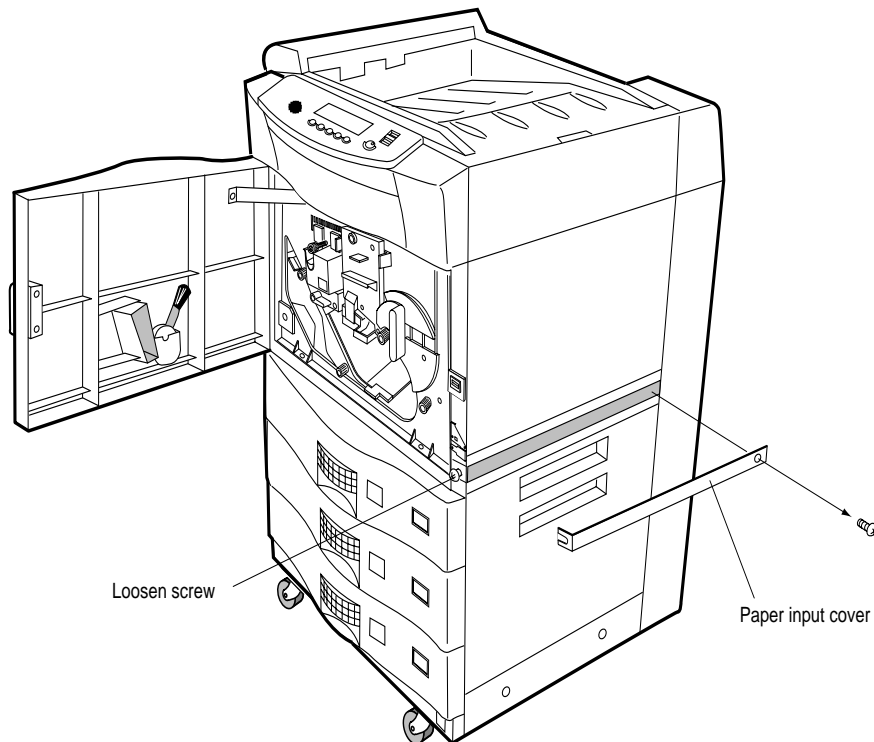

Figure 4-4 Removing Paper Input Cover
3. Loosen the screw in the front of the printer and remove the screw from the right side, as shown in Figure 4-4.